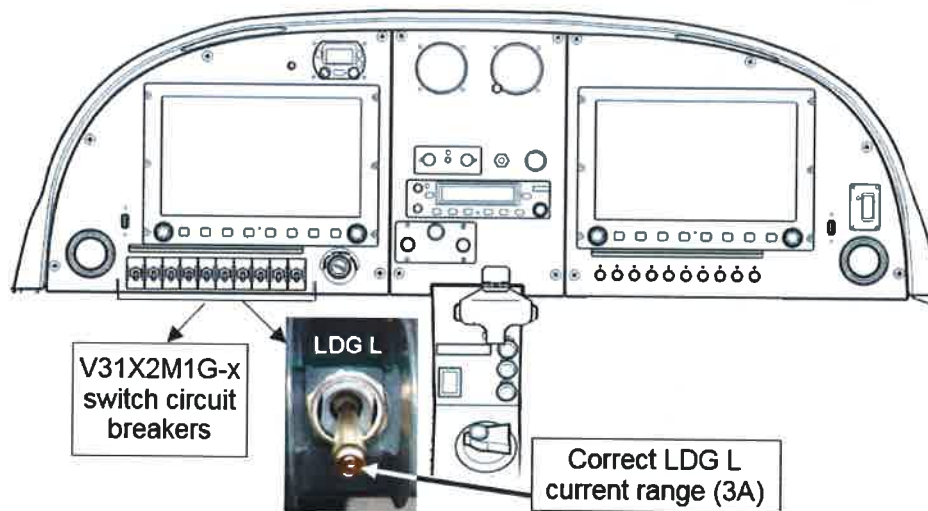

Figure 8 - The LDG L W31X2M1G-x switch circuit breaker. Placed on the left instrument panel
NOTE: Numbering of parts used in this Section 3 belongs to the Figure 8, 9 and 10.
Note: The instrument panel on Figure 8 is illustrative only, and may differ depending on the aircraft equipment.
- 3.1 Determine the LDG L switch circuit breaker (text "LDG L") on the left instrument panel, see Figure 8.